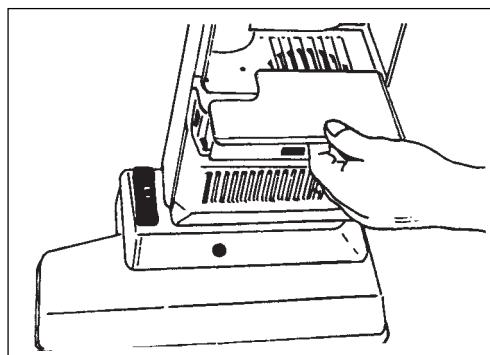

Figure 16
3. Remove the filter, see figure 16.
3. Enlevez le filtre. Voir figure 16.